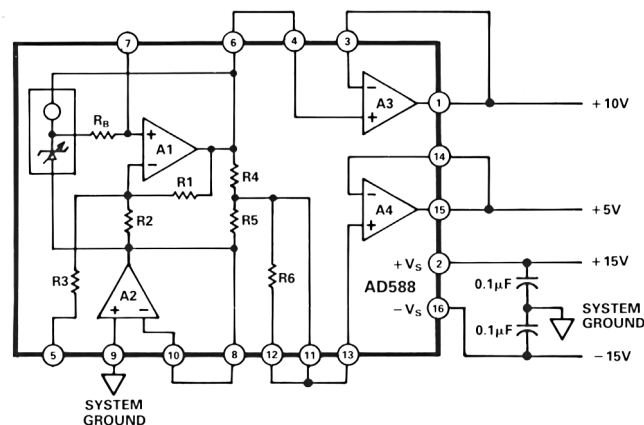
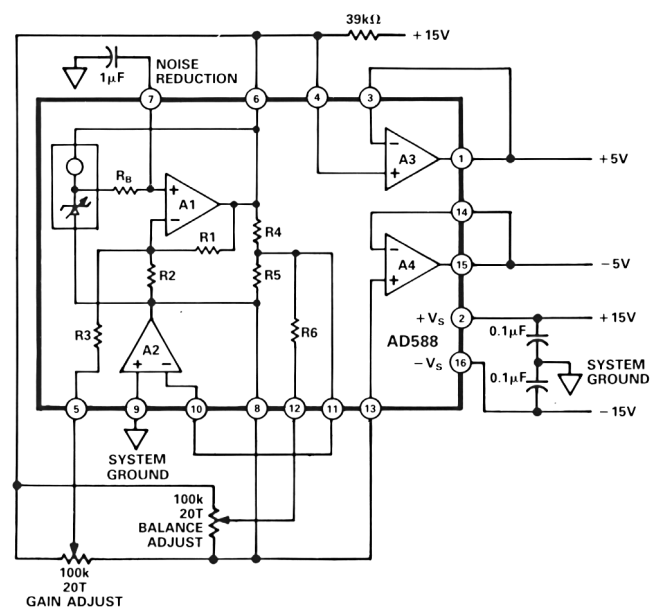
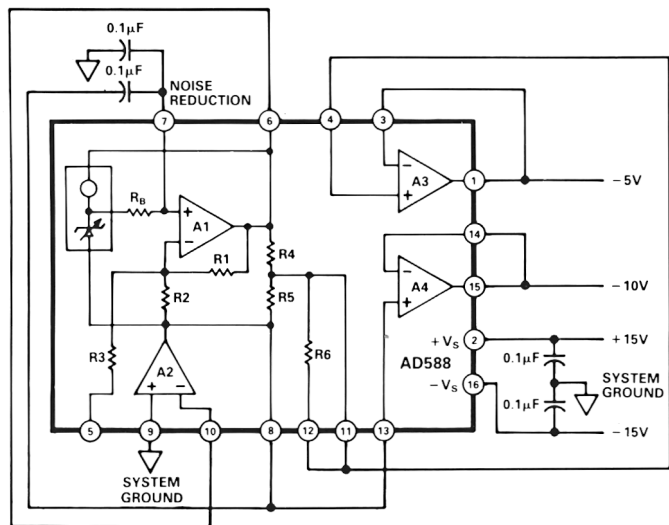

Figure 2a. +10 V Output
Figure 2b. +5 V and -5 V Outputs
Figure 2c. -10 V Output
+10 V Configuration Figure 2a
-10 V Configuration Figure 2c
+5 V, -5 V,  $\pm 5$  V Configuration Figure 2b
The AD588 can be configured to provide +10 V and -10 V reference outputs as shown in Figures 2a and 2c respectively. It can also be used to provide +5 V, -5 V or a  $\pm 5$  V tracking reference as shown in Figure 2b. Table I details the appropriate pin connections for each output range. In each case, Pin 9 is connected to system ground and power is applied to Pins 2 and 16.
As indicated in Table I, a +5 V buffered output can be provided using amplifier A4 in the +10 V configuration (Figure 2a). A -5 V buffered output can be provided using amplifier A3 in the -10 V configuration (Figure 2c). Specifications are not guaranteed for the +5 V or -5 V outputs in these configurations. Performance will be similar to that specified for the +10 V or -10 V outputs.
Figure 2b shows GAIN and BALANCE trims in a +5 V and -5 V tracking configuration. A 100 k $\Omega$  20-turn potentiometer is used for each trim. The potentiometer for GAIN trim is connected between Pins 6 ( $V_{HIGH}$ ) and 8 ( $V_{LOW}$ ) with the wiper connected to Pin 5 (GAIN ADJ). The potentiometer is adjusted to produce exactly 10 V between Pins 1 and 15, the amplifier outputs. The BALANCE potentiometer, also connected between Pins 6 and 8 with the wiper to Pin 12 (BAL ADJ), is then adjusted to center the span from +5 V to -5 V.
If further noise reduction is desired, an optional capacitor may be added between the NOISE REDUCTION pin and ground as shown in Figure 2b. This will form a low-pass filter with the 4 k $\Omega$   $R_B$  on the output of the Zener cell. A 1  $\mu\text{F}$  capacitor will have a 3 dB point at 40 Hz and will reduce the high frequency (to 1 MHz) noise to about 200  $\mu\text{V}$  p-p. Figure 4 shows the 1 MHz noise of a typical AD588 both with and without a 1  $\mu\text{F}$  capacitor.
Note that a second capacitor is needed in order to implement the NOISE REDUCTION feature when using the AD588 in the -10 V mode (Figure 2c.). The NOISE REDUCTION capacitor is limited to 0.1  $\mu\text{F}$  maximum in this mode.